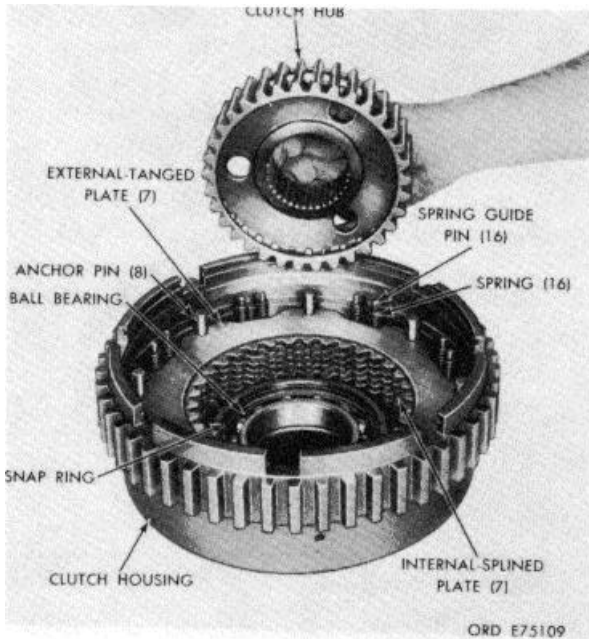

Figure 7-38. Removing output clutch hub.
- h. Remove the output clutch hub (fig. 7-38).
- i. Remove 14 clutch plates, 16 springs, 16 springs guide pins and eight clutch anchor pins from the clutch housing (fig. 7-38).
- j. Remove the snapping and ball bearing from the clutch housing (fig. 7-38).